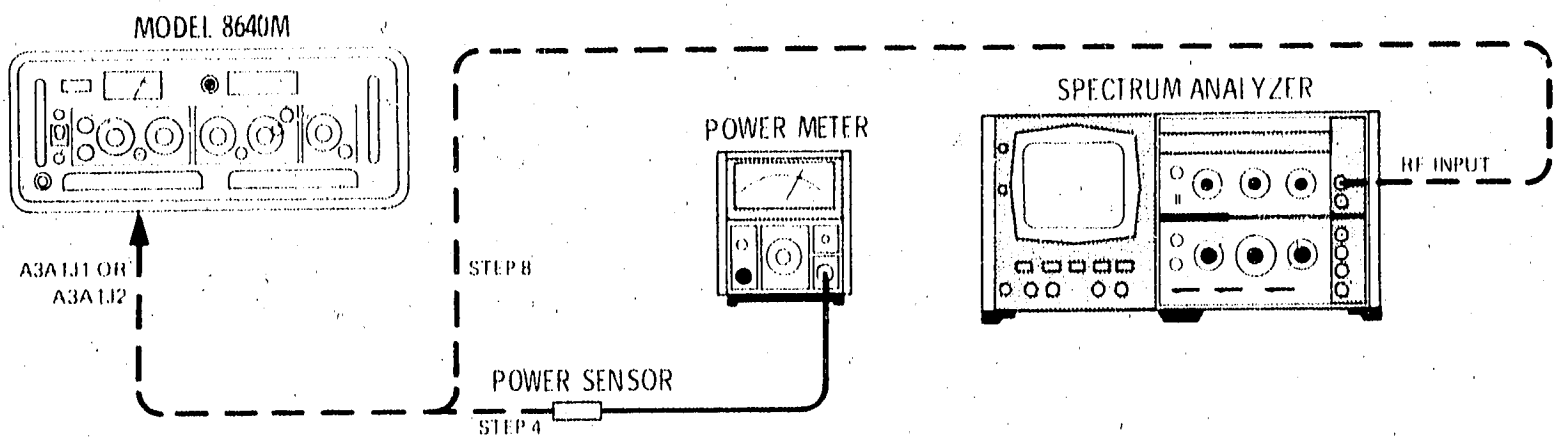

Figure 5-4. RF Oscillator Output Power Adjustment Test Setup
4. Connect power meter sensor to oscillator output connector A3A1J1 (Divider/Filter Amplifier) or A3A1J2 (Counter Buffer Amplifier). See Figure 5-4.